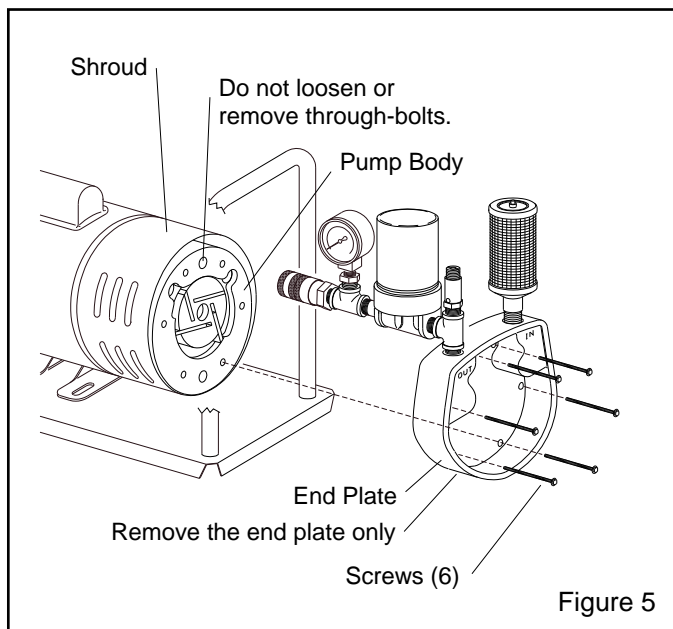

Figure 5
5.4.3 Remove the six bolts holding the end plate to the pump body, as shown in Figure 5.